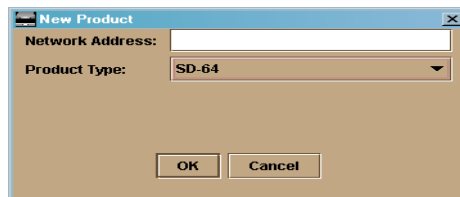

Figure 2-12: New Product Dialog Box
4. At the Product View, select the New Product option from the Configure menu. The New Product dialog box (Figure 2-12) displays.